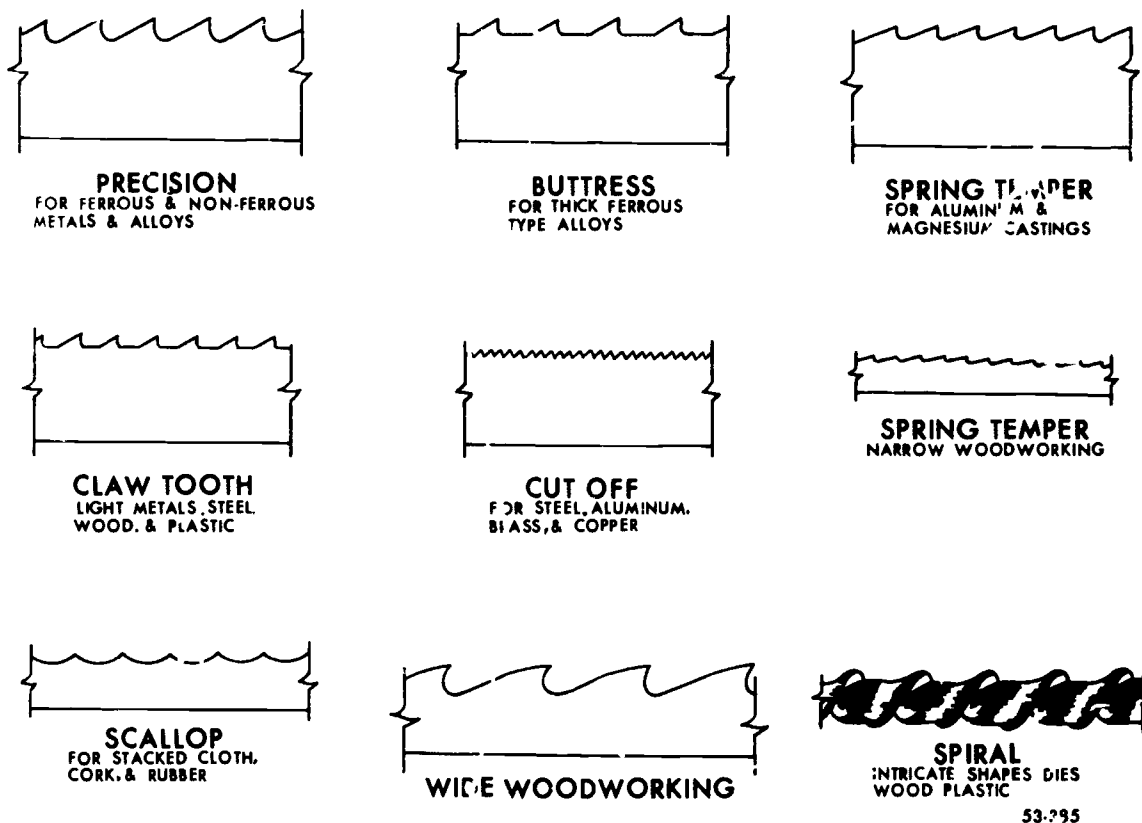

Figure 3-8. Shapes of saw band teeth.
**Types.** Several types of saw bands with different tempers and differently shaped teeth are made by various manufacturers. Figure 3-8 will help you recognize some of the common shapes of saw band teeth. Give special attention to the shape and spacing of the saw teeth, since they will help you to identify the various types.